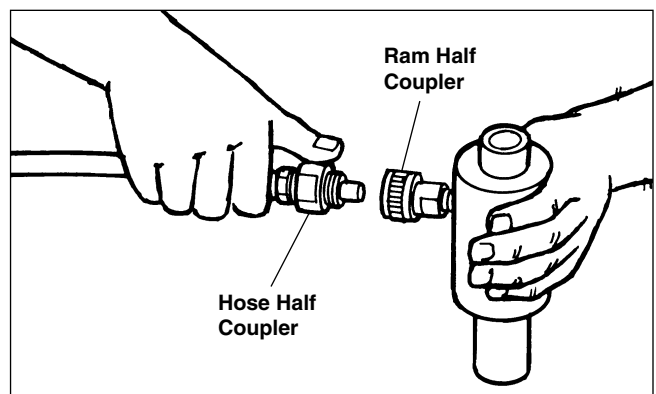

Figure 1 – Hydraulic Connections
2. Connect the hose half coupler at the end of the hose to the ram half coupler on the cylinder. Turn the collar completely on hand-tight (*Figure 1*).